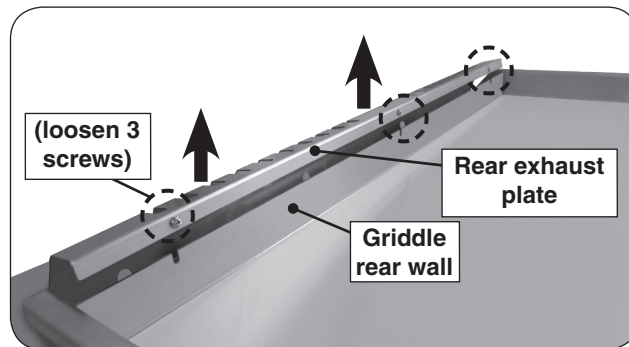

Fig. 32-1 Rear exhaust plate removal
1. Remove the rear exhaust plate by loosening the three bolts and nuts (do not disassemble), then lift the panel up from the griddle top (see Fig. 32-1).